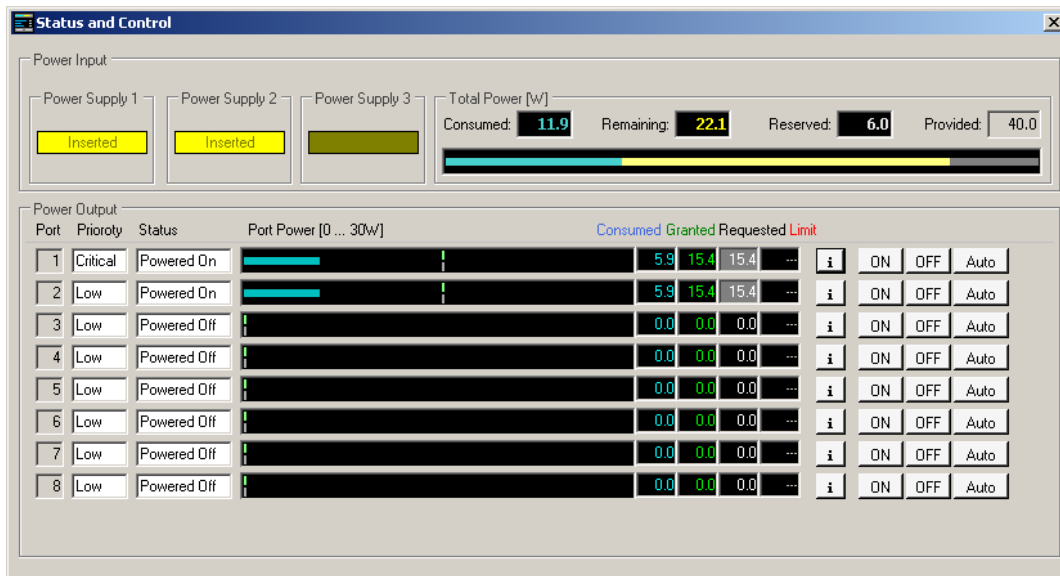

Figure 5. Status Screen with Class 3 PD on Port 1 and Class 4 PD on Port 2
1. Connect a Class 3 PD with a 6.5 W load (switches off) into Port 1 and a Class 4 PD with a 6.5 W load into Port 2. The status window is shown in Figure 5. Since sufficient power is available, both ports are granted power. Because Port 2 was not enabled as PoE+, the Class 4 PD is only granted 15.4 W.